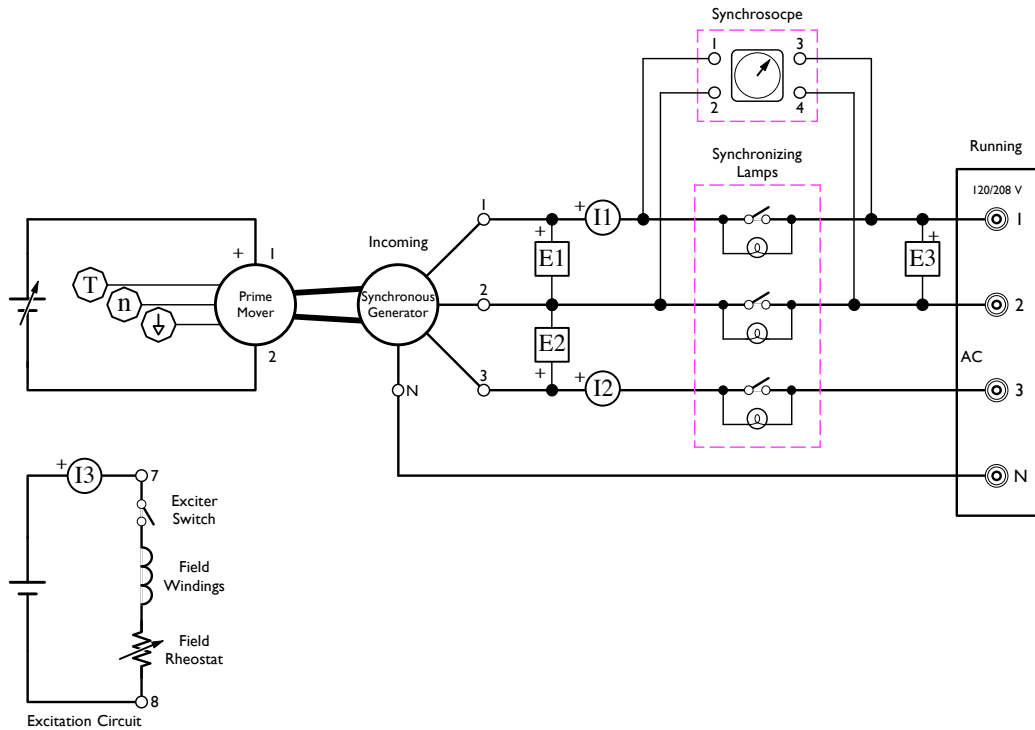

Figure 6.1: Synchronous Generator Paralleled with the AC Power Network
- 7. Connect the equipment as shown in the Figure 6.1.